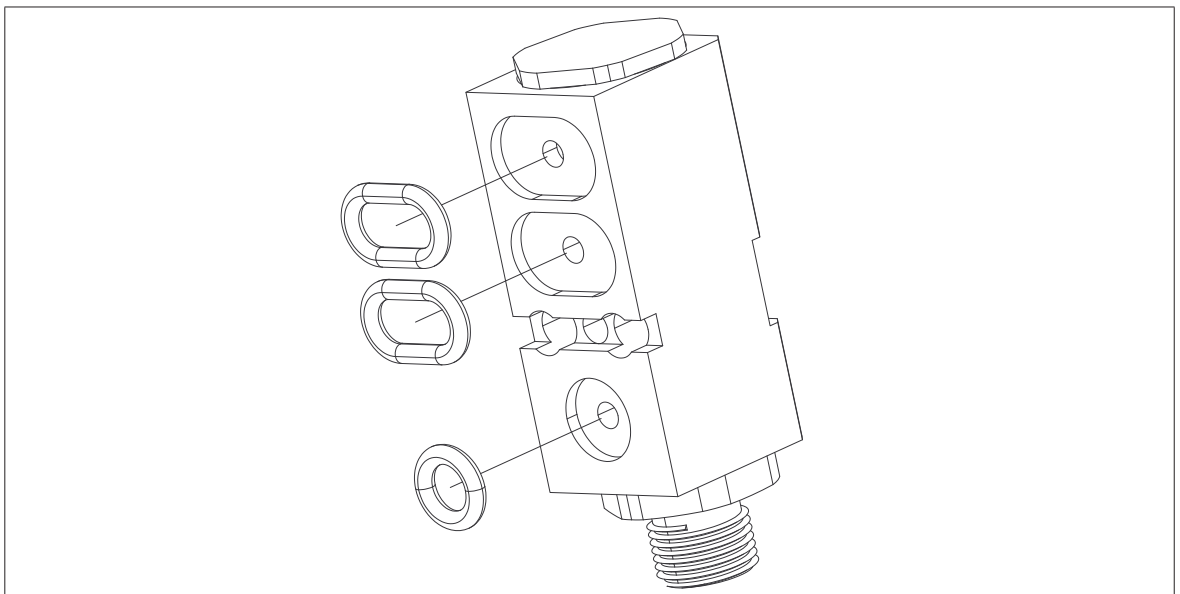

Figure 5: Insert O-rings
5. Check the supplied O-rings for completeness and correct fit (see *Figure 5*).